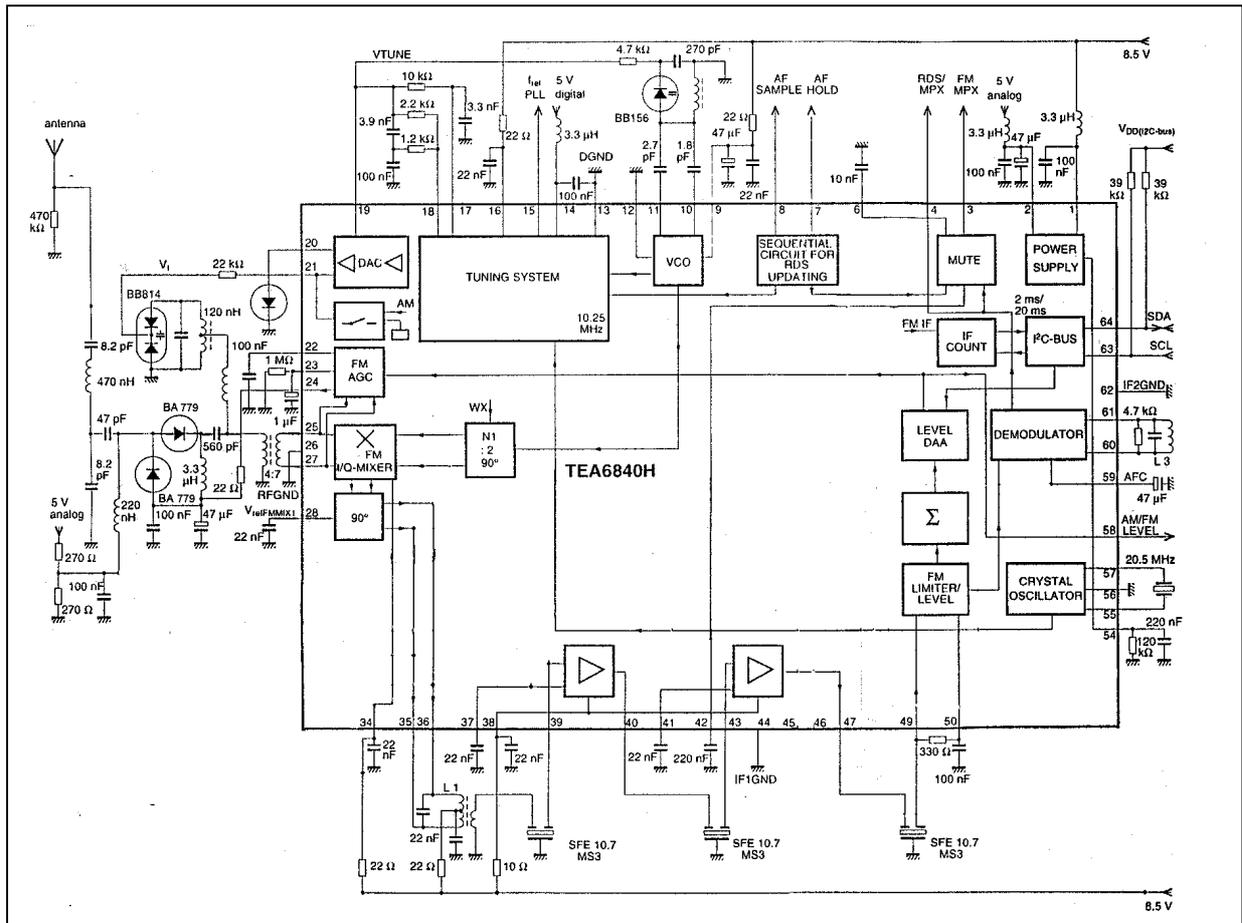

Fig. 13 FM functional diagram.
4.2 **FM-signal channel**, see Fig.13 for the Functional Circuit.
In Fig. 13 two pin diodes have been used in a 3-step control. The IC contains source and sink currents, towards + and - resp.; where the pin-diodes are biased at half the supply voltage. At increasing rf input signal, the series diode starts first with current down control (increasing the coupling impedance to the selective tuned circuit). The 3rd step is when series diode control is finished and only the parallel diode gives further damping: up to 50 dB attenuation of the signal to the input circuits. The 2nd step is the small in between area.
As this area gives higher requirements on pin-diode linearity, the application of Fig. 36 shows another pin-diode-control. Here only parallel damping is applied with two pin-diodes. The disadvantage of larger signal at the series diode (Fig.13, in the 2nd step) has been avoided at the costs of components (a series inductance to maintain rf-selectivity as good as possible). Note that for high stability in the agc loop a series resistor of 22 Ohm at the diode-current output (pin 24) is recommended.